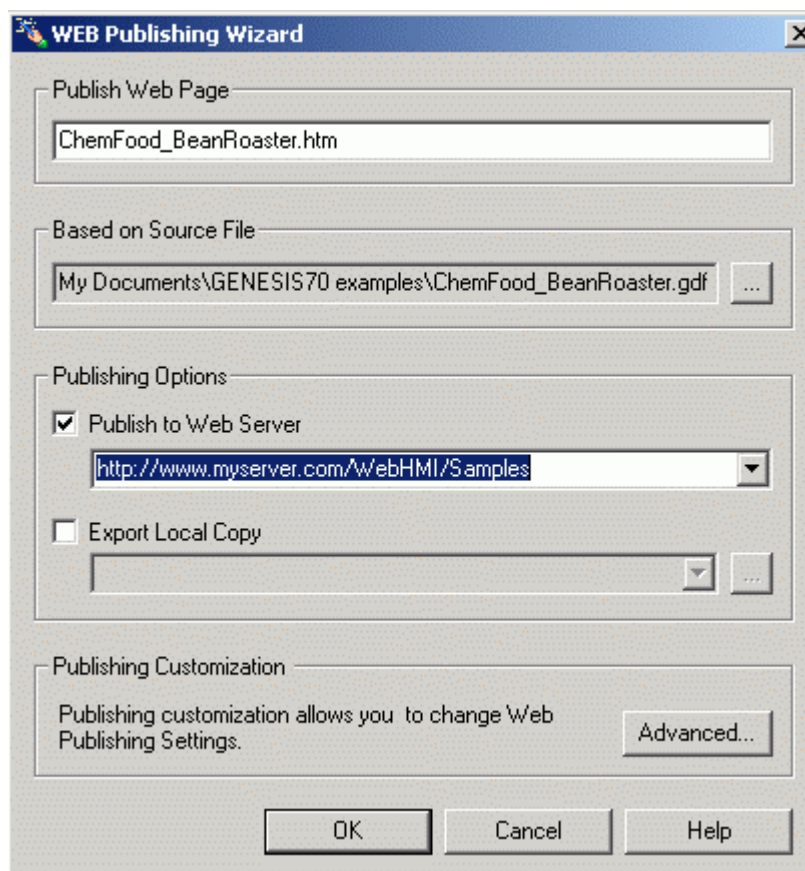

Figure 4.9. Publish to Web Server Location Specified in Web Publishing Wizard
indicating where you want to publish the HTML file, as shown in **Figure 4.9**. In the sample Web server URL address shown below ("http://www.myserver.com/WebHMI/Samples"), the various components are:
4. The Web server URL address now appears in the Web Publishing Wizard dialog box in the **Publish to Web Server** field of the Web Publishing Wizard, as shown in Figure 4.9.